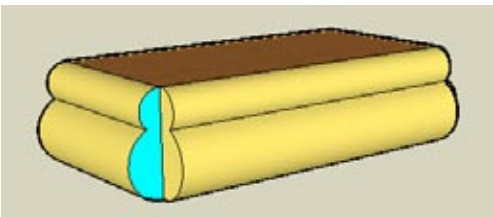

Figure 4-20
8. To make it easier to copy the round object to other corners later, paint the rounding face a different color (shown in Figure 4-20 in cyan). Because it's hard to know which side of the rounding face will appear after Follow Me, you should paint the back face too. The easiest way to do this is to right-click on the painted face and choose Reverse Face. (This switches the back and front faces.) Paint the reversed face the same color you just used for the first side. Now this face is painted on both sides.